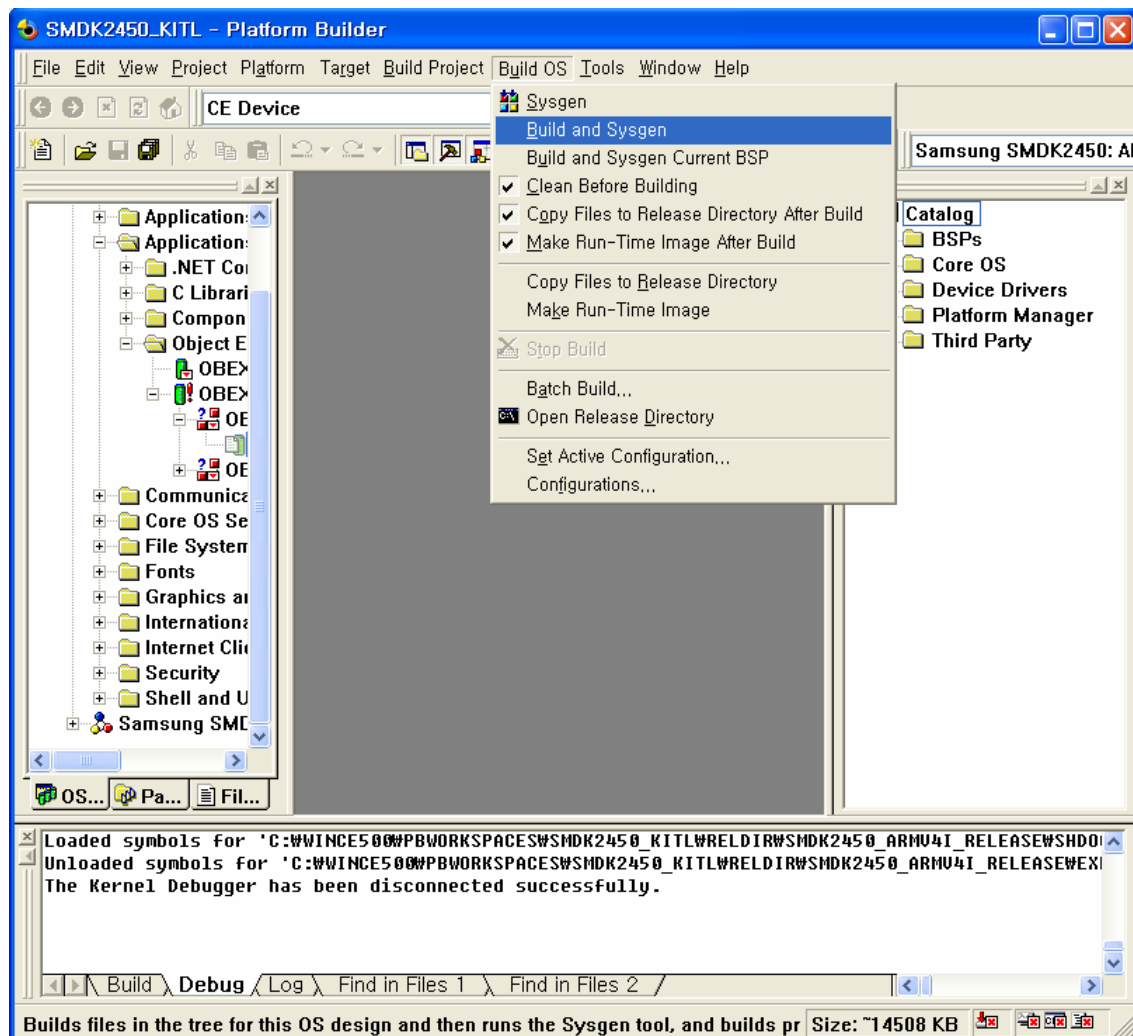

Figure 6-28 Build and Sysgen
2. On the Build OS menu in platform builder window, click **Build and Sysgen** as shown in figure 6-28 to build the WinCE image with USB Serial KITL.